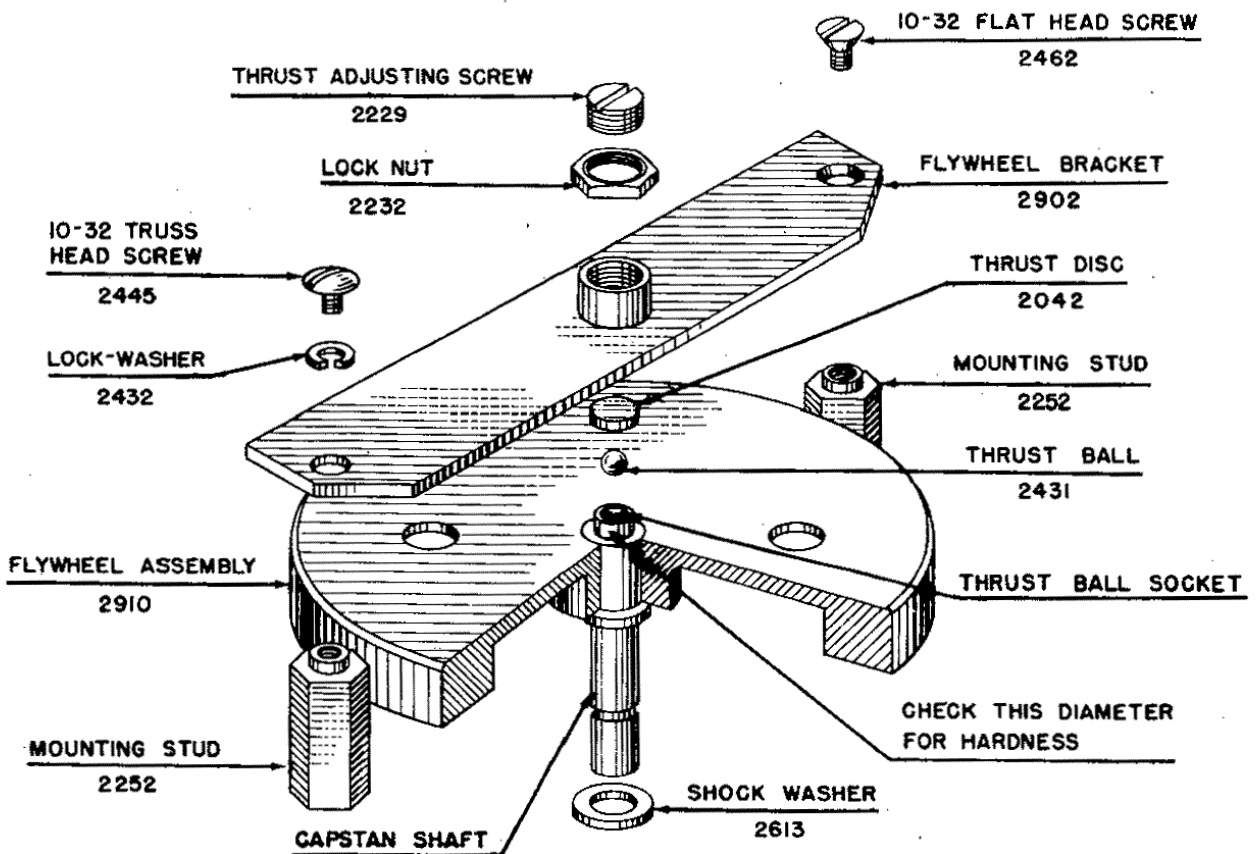
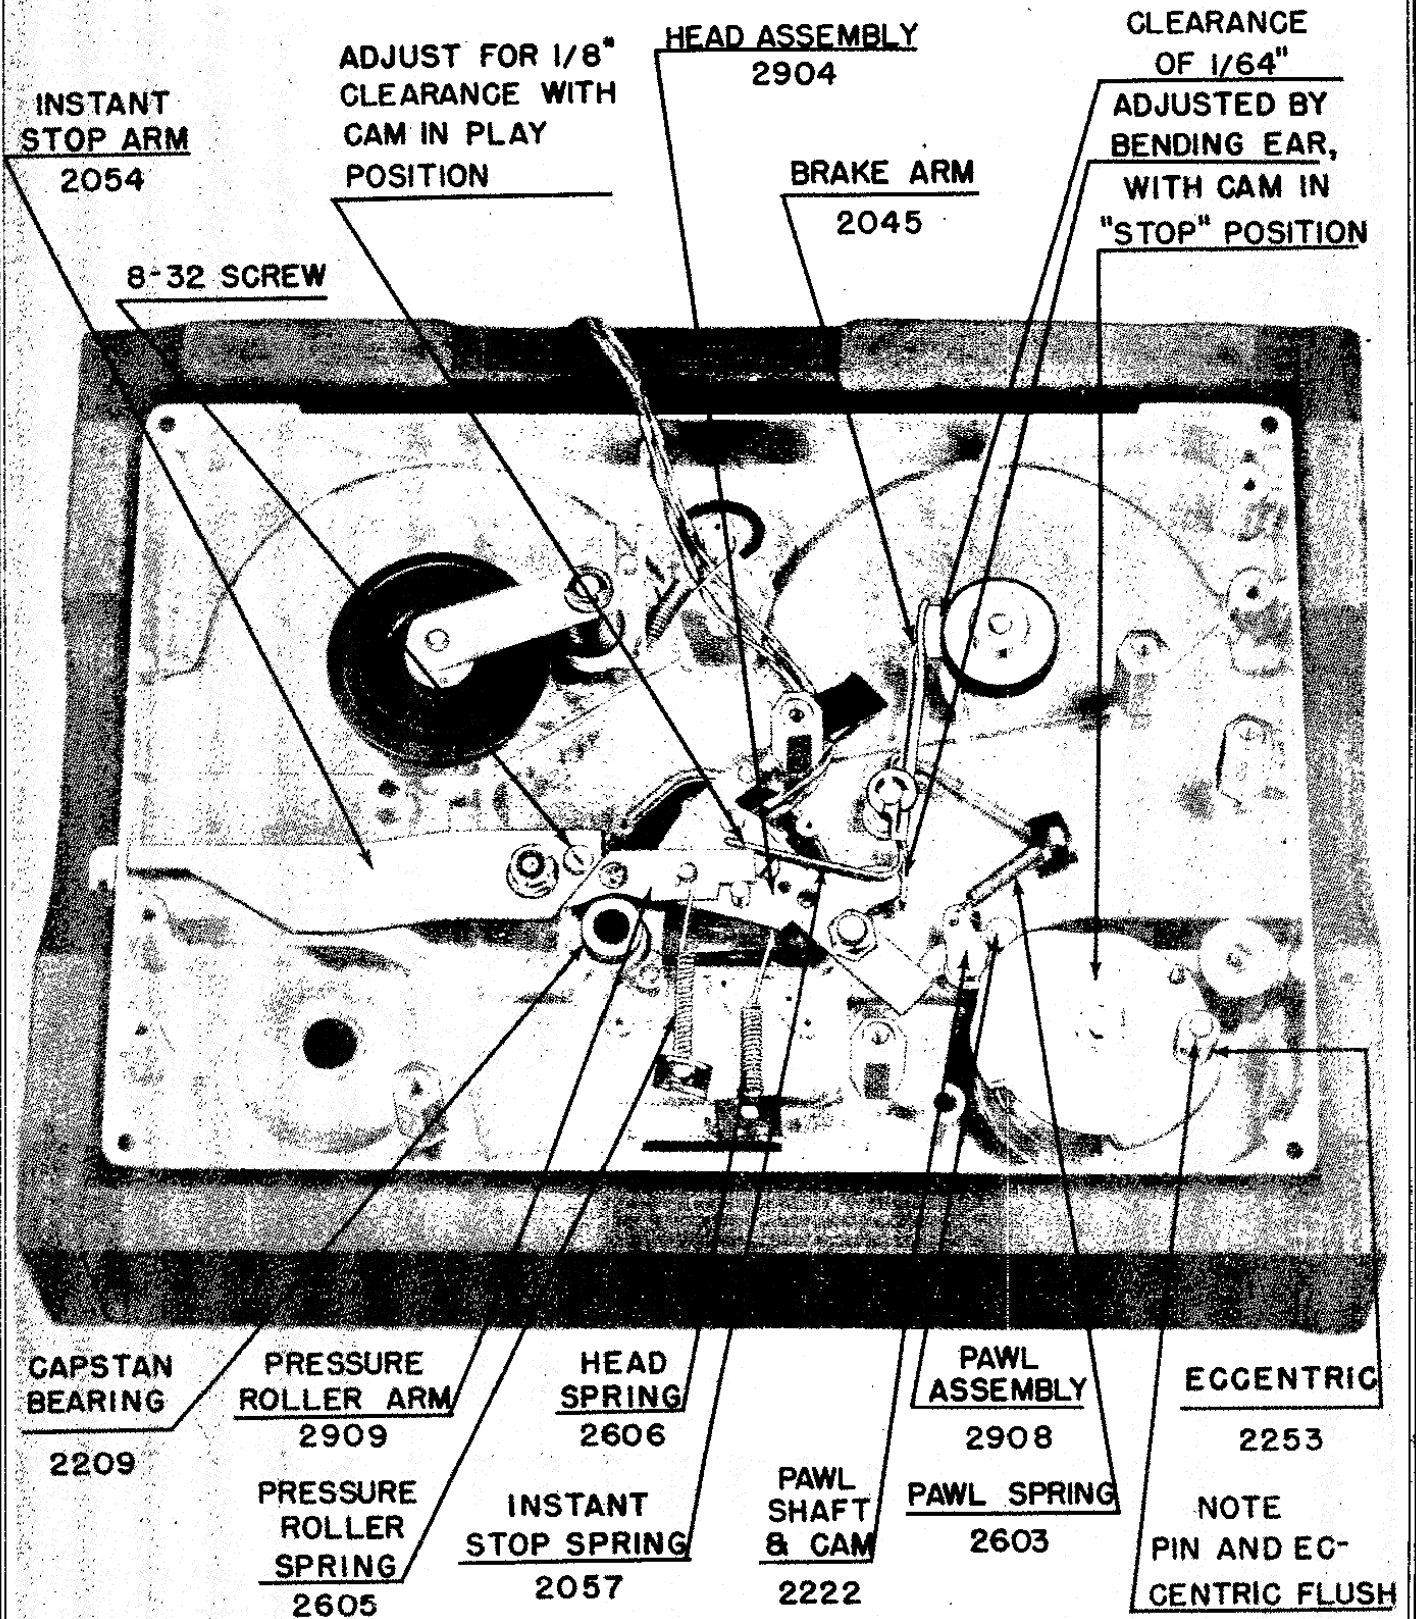

FIG. 7 - Exploded View, Flywheel Assembly.
FIG. 11 - Bottom View of Recorder After Removing Flywheel Assembly.
(1) Disassembly: (See Fig. 7.) Remove screws (#2462) and (#2445) from flywheel bracket. Lift bracket (#2902) from studs (#2252). Lift thrust ball (#2431) and thrust disc (#2042) from thrust socket.
(2) Inspection: Inspect thrust ball (#2431), thrust disc, (#2042) and flywheel (#2910) surfaces for burrs and wear.
(3) Repair: Replace worn parts. Capstan bearing (Fig. 11) should be replaced if capstan shaft circumference indicates wear.
(4) Reassembly: Lubricate thrust ball (#2431) and socket with Andox "B" Grease. Lubricate capstan shaft with Stan-Oil No. 75. Assemble parts in order shown in Fig. 7. Set thrust adjusting screw (#2229) to allow flywheel 3/64 inch vertical play along capstan
Place Function switch in STOP position and adjust for 1/64 inch clearance between felt pad and shaft (see Fig. 11).
Place Function switch in PLAY position and adjust for 1/8 inch clearance as noted in Fig. 11.
Rotate eccentric (#2253, see Fig. 11) around its mounting pin to afford:
As viewed in Fig. 11, top flat surface of eccentric should be flush with end of its mounting pin.
Check shaft diameter noted in Figure 7. If this diameter is not "file hard", replace flywheel assembly (#2910) and capstan bearing (#2209).